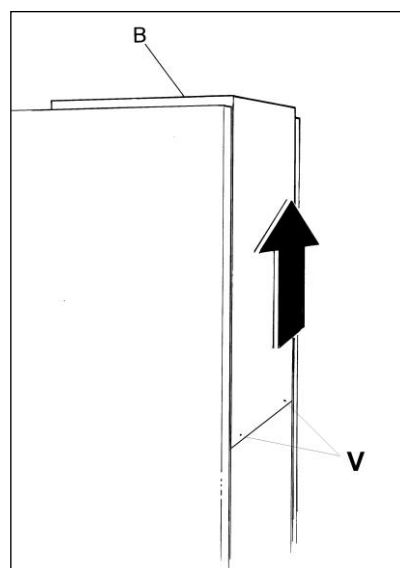

Fig. 6
- **U**nscrew the fixing screws located on the lower part of the rear cover B and remove it by lifting it upwards (Fig. 6).
- a) Remove the packing (fig.6), preserve it in order to reuse for winter storage and make sure the machine is in perfect condition.